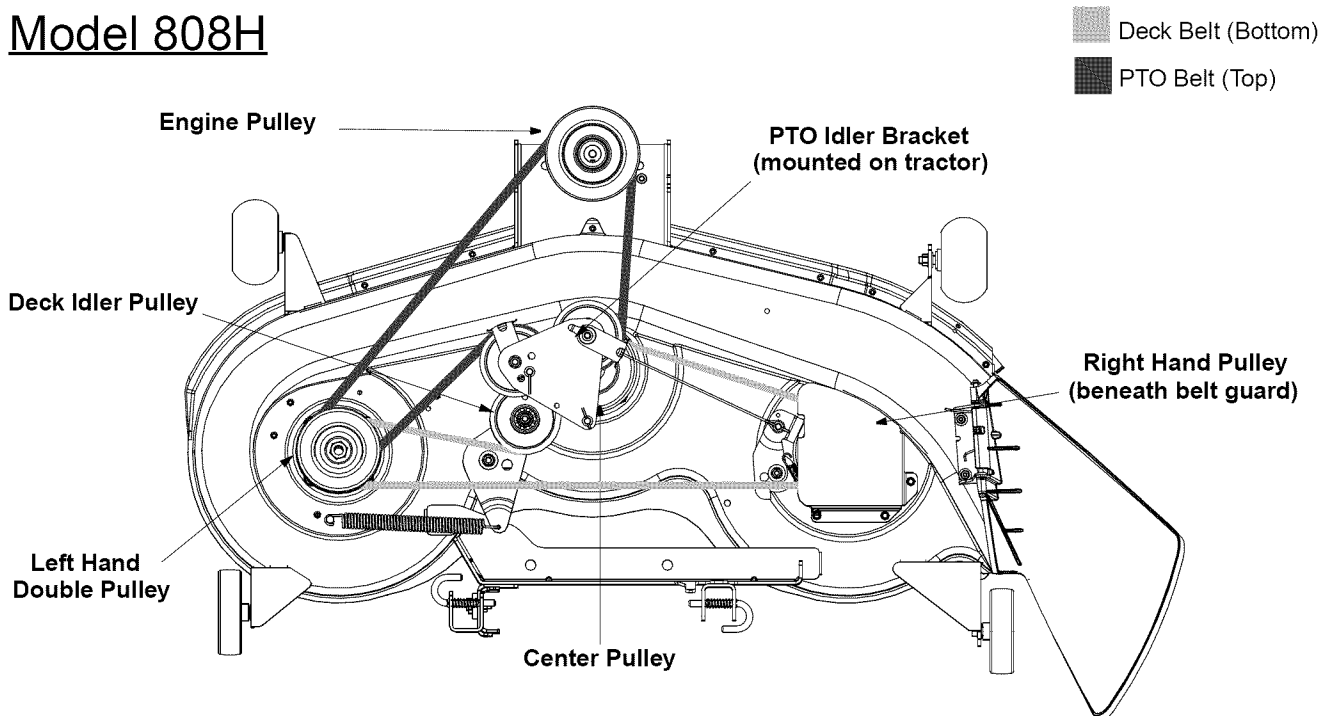
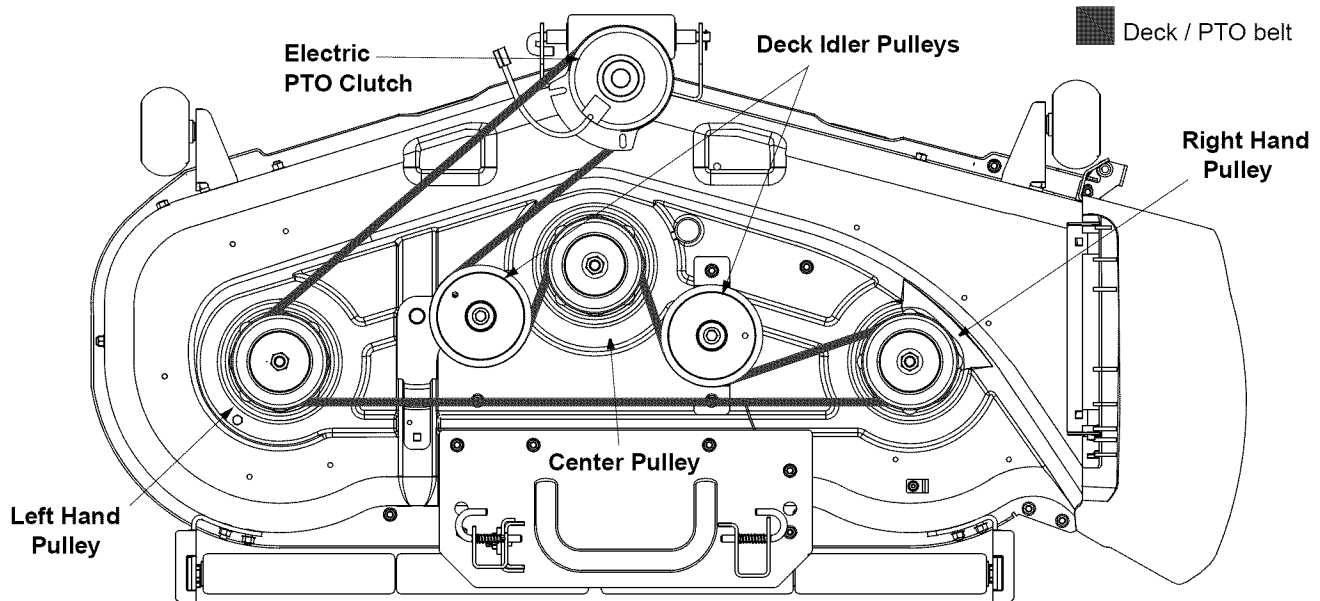

Figure 19
Figure 20
- Remove the PTO belt from around the electric PTO clutch. Refer to Figure 19.
- According to your tractor model, route the new belts as shown in Figure 19 or Figure 20.